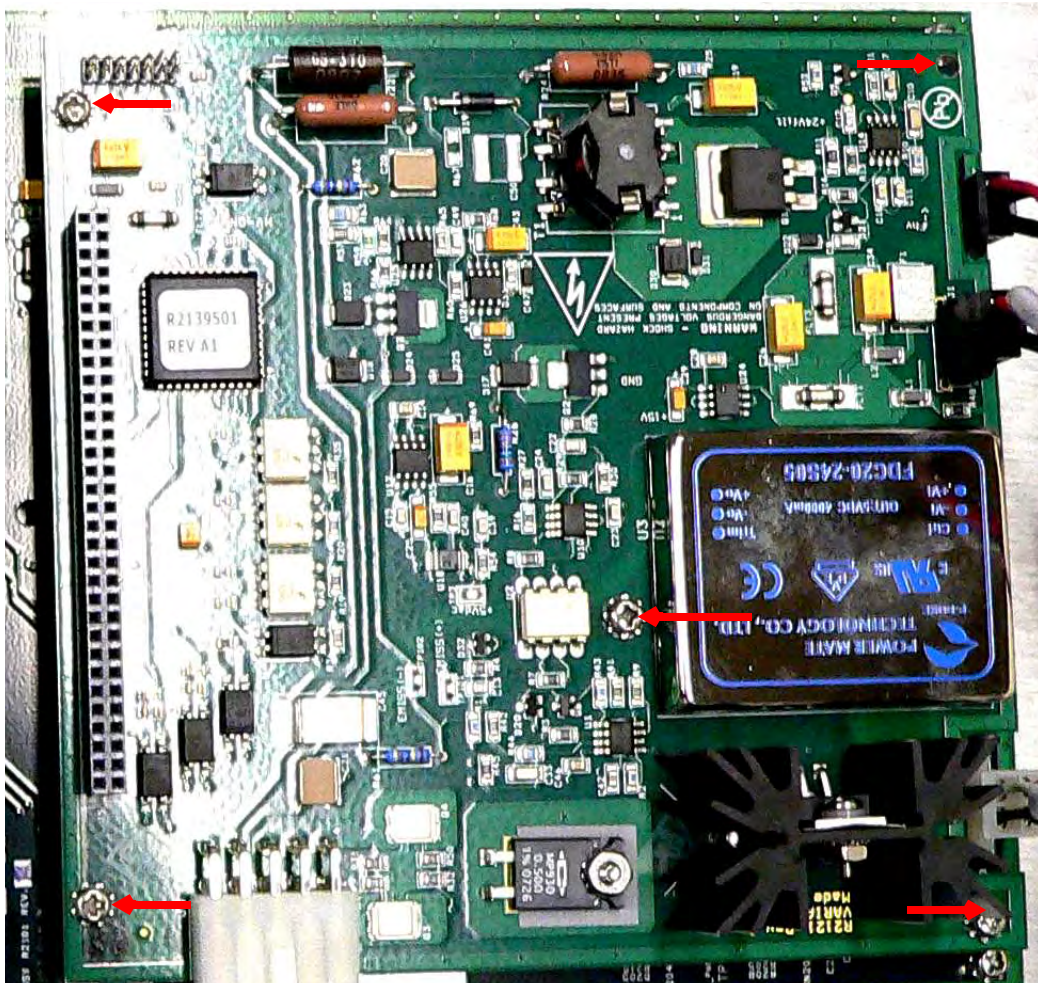

Figure B-33 Mounting Screws
- Remove the five (5) Philips head screws and washers (Figure B-33).